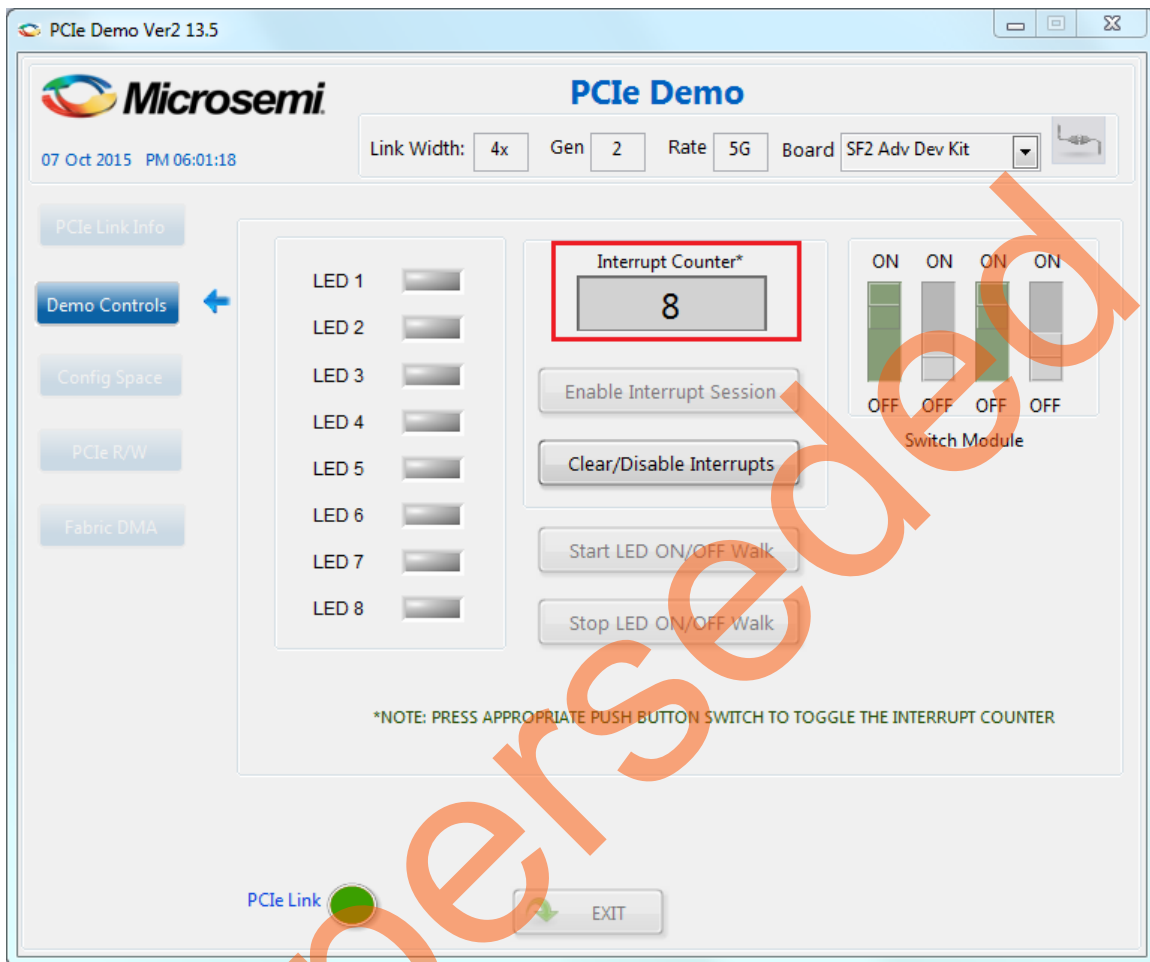

Figure 21 • PCIe Interrupt
10. Press the push button, SW3 on the SmartFusion2 Advanced Development Kit board or SW4 on the IGLOO2 Evaluation Kit board. Observe the interrupt count on the **Interrupt Counter** field in PCIe_Demo application as shown in Figure 21.